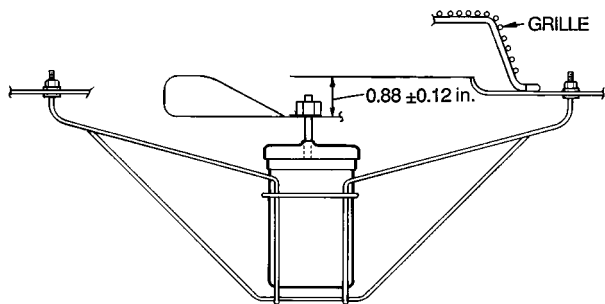

Fig. 51 — Condenser-Fan Adjustment
4. Adjust fan height on shaft using a straightedge placed across venturi and measure per Fig. 51.